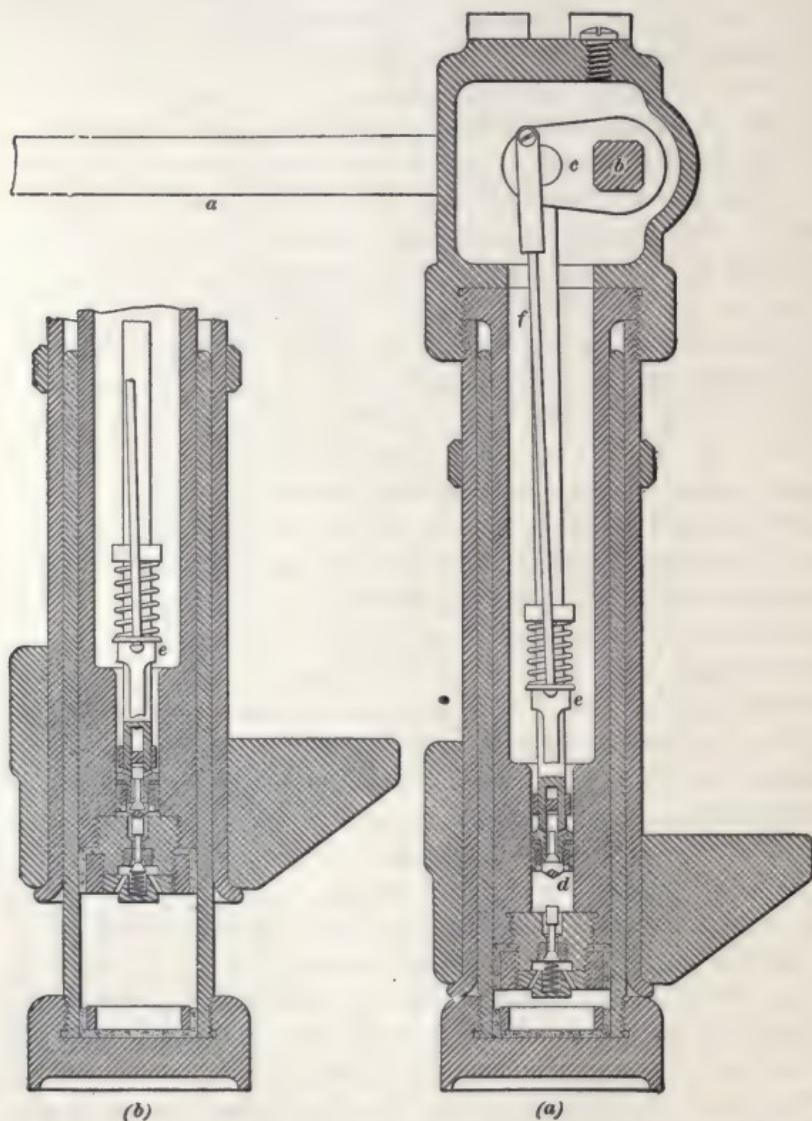

FIG. 10.
**19.** A Watson-Stillman hydraulic jack is shown in section in Fig. 10 ( $\alpha$ ). In this illustration,  $a$  is a lever that is depressed by the operator when he desires to raise the load. This lever freely fits a rectangular hole or socket in a shaft  $b$  that extends clear through the ram head. The shaft  $b$  carries the crank  $c$  to which the piston  $d$  is hinged. A small valve is placed in the center of the piston and serves to open or close communication between the water space above and below the piston. The lower end of the ram is fitted with a small check valve, which normally is held closed by the small spring shown beneath the valve. The inside of the jack is filled with a mixture of alcohol and water, about 2 parts of alcohol to 3 parts of water, which prevents the freezing of the liquid when the jack is used in cold weather. The operation is as follows:
The jack being clear down, as shown in Fig. 10 ( $\alpha$ ), it is placed under the load and the operator alternately depresses and raises the lever through its full range, the motion being limited by a projection on the under side of the lever. The slightest depression of the lever closes the valve in the piston. The downward movement of the piston continuing, the water between the bottom of the piston and the end of the ram is subjected to a pressure that opens the valve in the end of the ram. This allows the water under pressure to pass into the space beneath the ram. The pressure so transmitted to the lower end of the ram forces it upwards. The lever having been depressed to its limit is again raised. This raises the piston, causes the piston valve to open, and allows the water above the piston to flow beneath it. The pressure of the water below the ram promptly closes the ram valve as soon as the piston commences to move upwards. The operation may now be repeated as often as required.
In order to lower the ram, the lever is withdrawn from its socket and inserted again with the projection upwards. It can now be depressed far enough to cause the end of the piston to strike and open the ram-head valve, as shown in Fig. 10 (*b*), where the parts of the jack are shown in the relative positions occupied while lowering. But before the water in the bottom of the ram can escape to the top, the valve in the piston must also be opened. This is accomplished by a heavy spring that forces the sleeve *e* downwards. The lower end of the sleeve has a cotter working in a slot in the piston rod; the cotter bearing against the top of the valve forces the latter downwards. The sleeve is connected to the crank *c* by the so-called lowering wire *f*, in such a manner that the cotter will not strike the piston valve while the jack is raising the load. The ram will descend as long as the lever is kept hard down; it can be stopped instantly by raising the lever slightly.